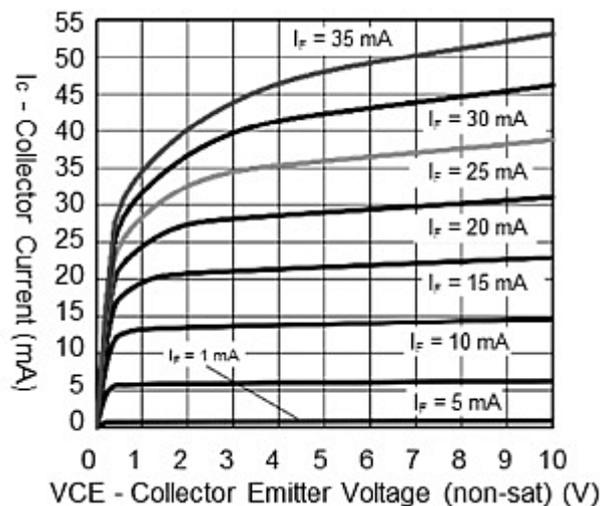

Figure 11: Collector current vs. collector-emitter voltage (non-saturated)
On the output side, Figure 11 shows a typical collector-emitter voltage (VCE) sweep, similar to a bipolar NPN or PNP transistor output curve. It consists of collector-emitter voltage (VCE) and collector current (IC) as a function of the base current (IBASE). With optocouplers, the emitter forward current (IF) is approximately equivalent to the transistor's base current (IBASE) and is plotted as forward current (IF) in various steps. The higher the forward current (IF), the higher are the base current (IBASE) and collector current (IC) for a given collector-emitter voltage (VCE).